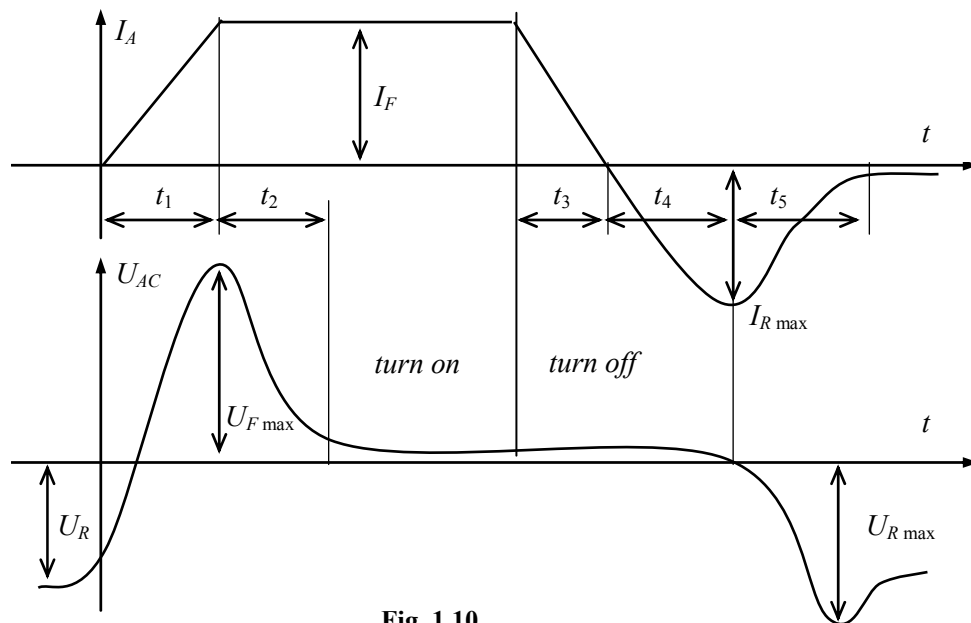

Fig. 1.10
**Switching.** For power devices, switching process is the most common operation mode. A power diode requires a finite time interval to switch over from the off state to the on state and backwards. During these transitions, current and voltage in a circuit vary in a wide range. This process is accompanied with energy conversion in the circuit components. A power circuit contains many components that can store energy (reactors, capacitors, electric motors, etc.). Their energy level cannot vary instantaneously because the power used is restricted. Therefore, switching properties of power devices are analyzed at a given rate of current change, as shown *transients* in Fig. 1.10.